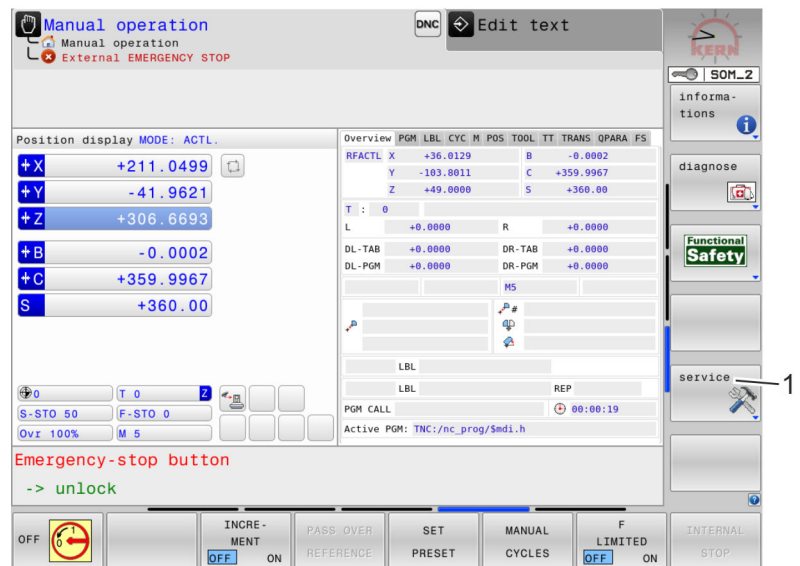

Fig. 78: Service menu
3. ➔ Press the [service] softkey (Fig. 78/1).